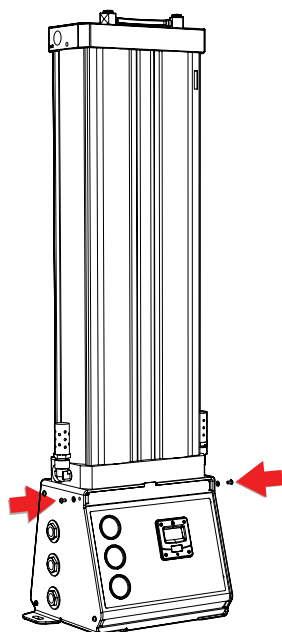

Figure 2
- Remove the two M5 screws from each side of the enclosure (see figure 2).